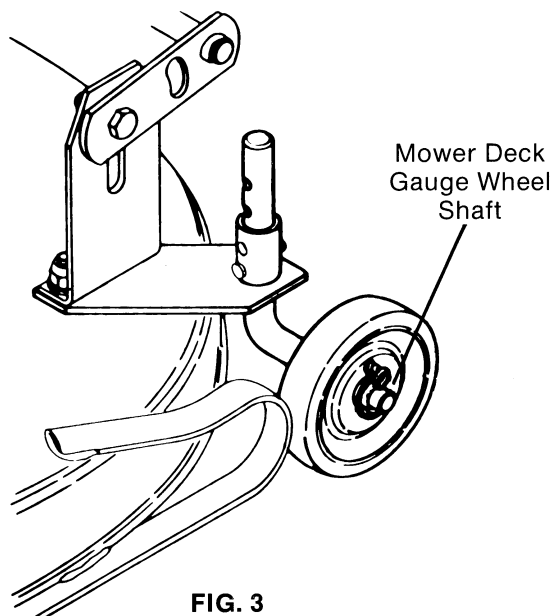

FIG. 3
4. Mower Deck Gauge Wheels - Oil shaft liberally, turning wheels to work oil in every 25 operating hours with SAE 30 oil. (Fig. 3)